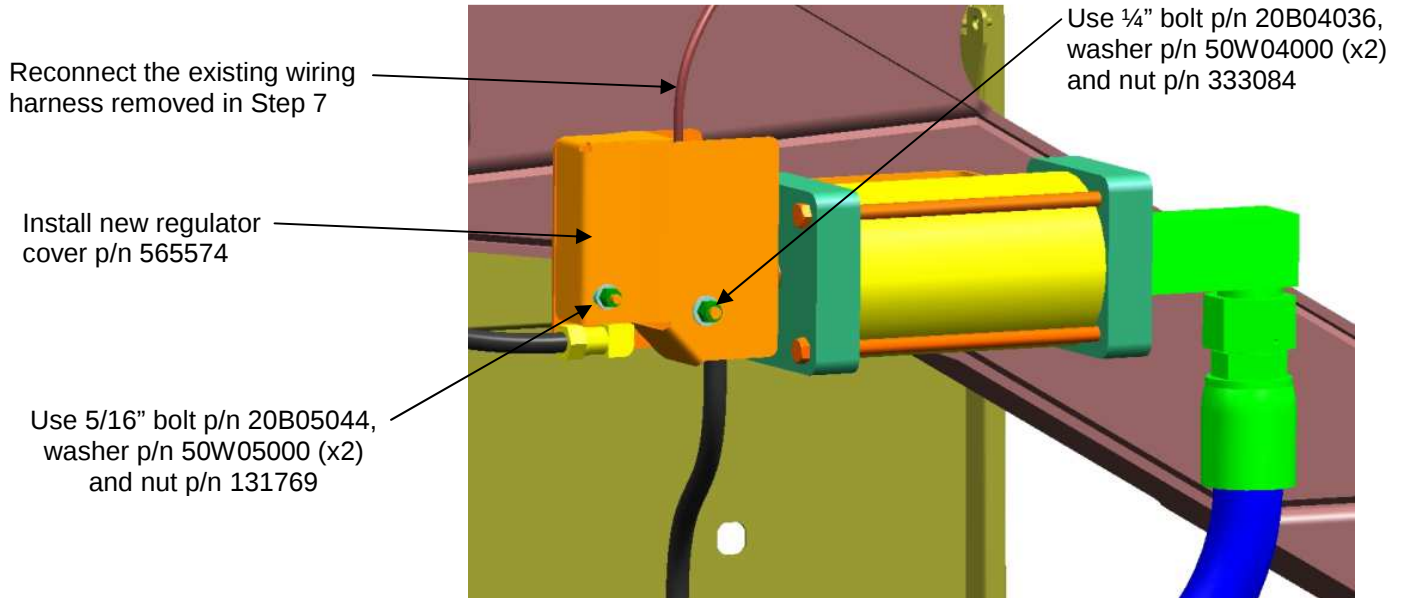

Figure 5: Accumulator Regulator Cover Installation
16. Install new regulator cover p/n 565574 using 5/16" bolt p/n 20B05044, washer p/n 50W05000 (x2) and nut p/n 131769 for the rear mounting hole and 1/4" bolt p/n 20B04036, washer p/n 50W04000 (x2) and nut p/n 333084 for the forward mounting hole. See Figure 5.